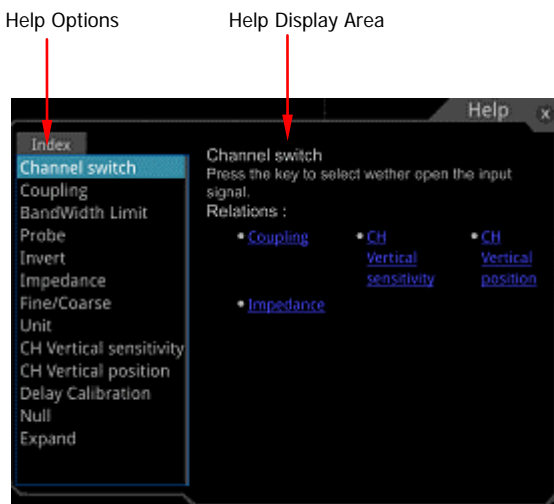

Figure 1-20 Help Information
2. Press **Content** on the front panel or tap the "Content" menu item, and then the help information is displayed on the screen, as shown in Figure 1-20. The help interface mainly consists of two sections. The left section lists "Help Options", and the right section is the "Help Display Area".